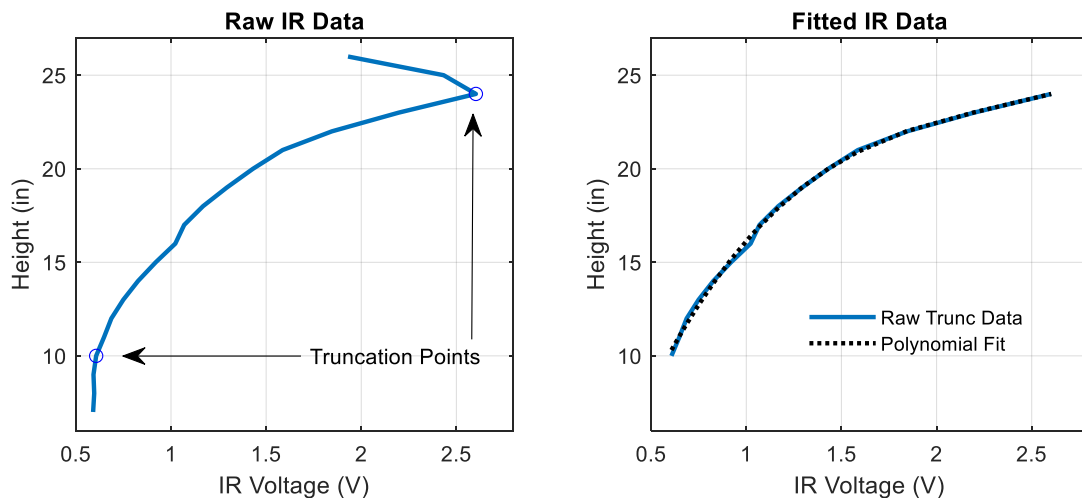

Figure 2. Sensor Calibration
1. Copy the results in a MATLAB script. Then, plot the results for the infrared sensor as Height (in) vs Average Voltage (V), similar to Figure 2 (left).
where the voltage and height have a one-to-one relationship. For instance, consider the example in Figure 2 (left). The voltage is increasing from height = 10in to height = 24in. Before 10in, it remains practically constant (not increasing) and above 24in it starts to decrease. Define a new truncated height vector (`TruncatedHeight`) in MATLAB that only includes heights for which the voltage values are increasing. Similarly, define a new truncated voltage vector (`TruncatedIRVoltages`) that includes the respective voltages.
3. In MATLAB, use the `polyfit` function to fit a polynomial to your data. `polyfit` will create a polynomial that takes the analog measurement data and approximates the height. The polynomial is of the form:  $\text{height} = p_1x^N + p_2x^{N-1} + \dots p_{N+1}$ , where  $x$  is the analog measurement (voltage) and  $p_i$  are the coefficients generated by `polyfit`. Here,  $N$  is the order of the polynomial. For the infrared sensor use a value for  $N$  between 2 and 4. Plot in the same figure the raw truncated data along with the fitted line (see Figure 2 (right)). How well does the fitted line match the actual data?
3. Two plots like Figure 2 (right) with the raw and fitted data lines for both the infrared sensor and encoder.